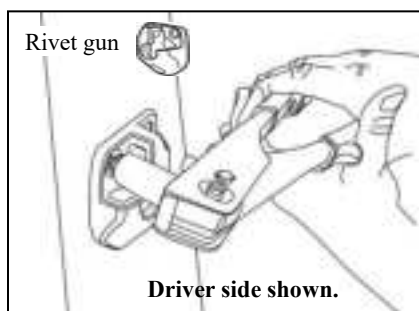

Fig. 1-7
- (7) Using the rivet gun or handheld rivet tool, and the shoulder spacer, secure the three rivets (Fig. 1-7).
- a. Figure 1-7 shows the handheld rivet tool no shoulder spacer.